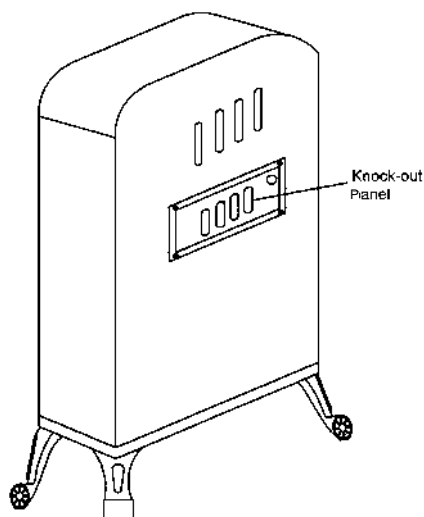

Figure 1 Removing Knock-out Panel
1. From back of heater remove the knock-out center panel with two brackets at the four sides with a Philips head screwdriver (see Figure 1).